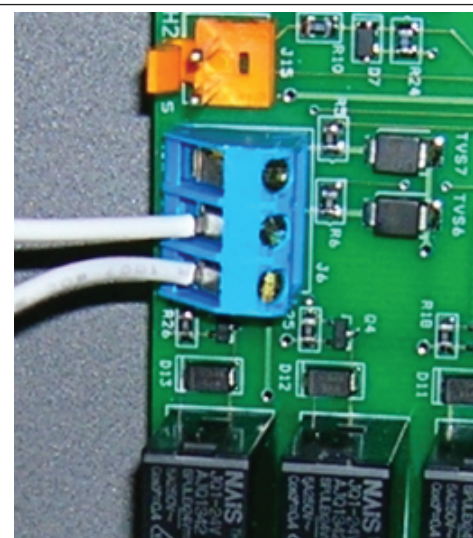

Figure 17. AquaLink RS or Remote TSTAT Connection (2-Wire Connection)
4. Connect the wiring from the pool/spa control system to the heater remote control terminal. See Figure 17.